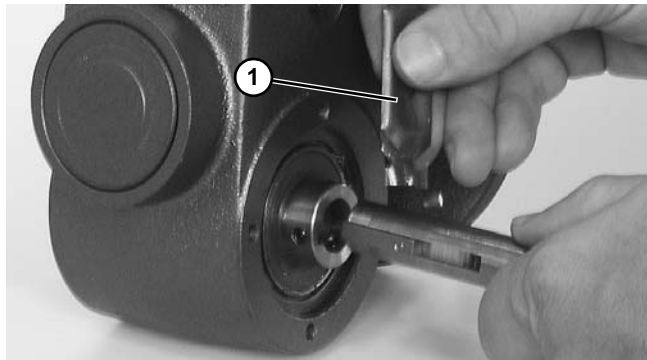

Figure 26
2. Apply anti-seize (**Figure 26, item 1**) to shaft.